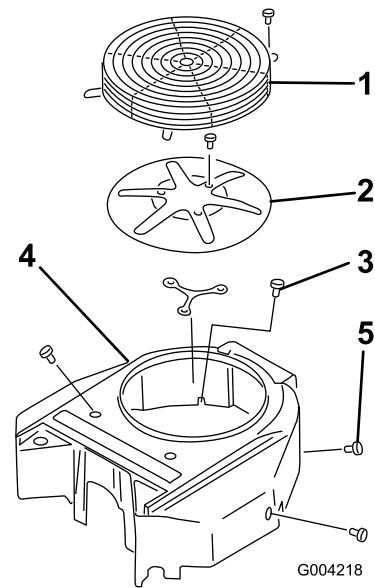

Figure 72
3. Remove the air intake screen, recoil starter and fan housing (Figure 72).
5. Install air intake screen, recoil starter and fan housing (Figure 72).